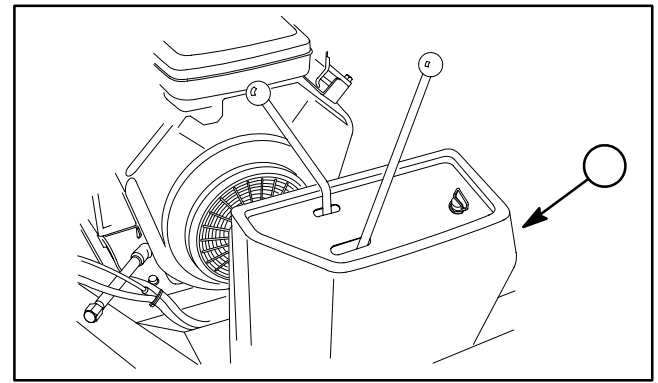

Figure 16
4. Remove control cover from machine (Fig. 16).
5. Position a drain pan under machine below hydraulic pump. Loosen hose clamp (item 14) from return hydraulic hose (item 15) and remove hose from pump fitting to allow pump to drain.
6. Loosen and remove hydraulic pressure hose (item 6) from pump. Locate and discard o-ring (item 16).
7. Loosen two (2) self-tapping screws (item 20) that secure pump support bracket to frame. Loosen jam nut (item 21) and then loosen square head screw (item 22) to relax pump drive belt. Remove drive belt from the hydraulic pump pulley.
2. Position hydraulic pump assembly to the support bracket. Secure pump to the pump support with removed fasteners. Make sure that spacers (items 10 and 18) are positioned between bracket and pump.
6. Install control cover to machine (Fig. 16).